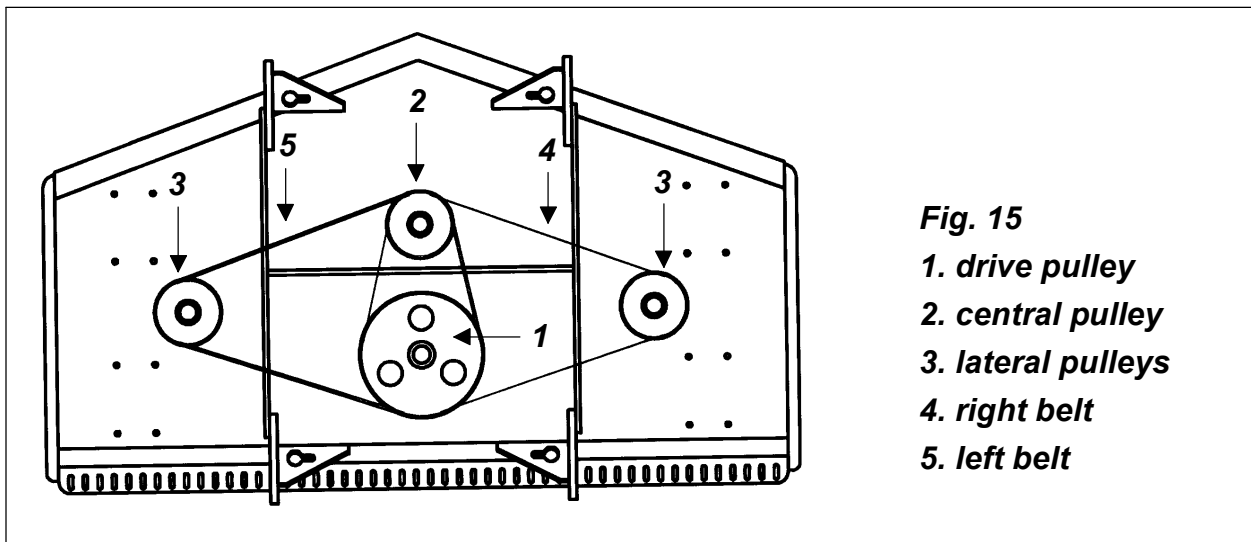

Fig. 15
8. Replace new belts (**see fig. 15**). Loop the first belt over the left spindle and around the lower groove of the center spindle pulley and the lower groove of the gearbox drive pulley. The second belt connects the upper grooves of the center spindle pulley and the gearbox drive pulley with the right spindle pulley.